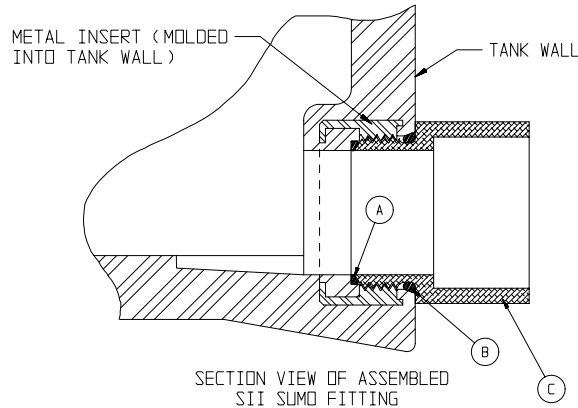

Figure 6.5
6.5.1 The SUMO fitting shall be constructed with 1 ea. smaller o-ring (A), 1 ea. larger o-ring (B), and 1 ea. SUMO adapter (C). Refer to Figure 6.5 for part identification. **NOTE - The tank is shipped with a shipping stabilizer installed in the SUMO outlet. NEVER move the container without the shipping stabilizer installed.**
6.5.3 Install the smaller o-ring inside the SUMO molded-in fitting. Make sure it is placed in the o-ring seat area evenly. Carefully stretch the larger o-ring enough to install it on the SUMO adapter. Only a SIERRA SUMO adapter may be used. Use of a non-approved adapter will void the tank warranty. The o-ring may be lubricated with a suitable lubricant such as water. Do not use silicone or Teflon sealants. Screw the adapter in until the step on the adapter is flush with the tank wall. Do not over-torque the adapter (25 ft. - lbs. of torque maximum). Figure 6.5 shows a sectional view of an assembled SUMO fitting.